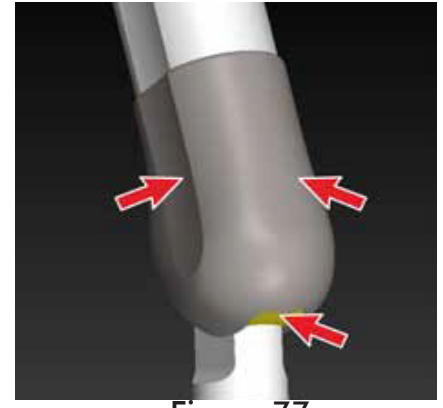

Figure 77
- Now take another half of end cap and insert such that the holes provided in both the caps are aligned properly and insert the other side of rubber part into the slot provided in the second half of the end cap as shown in Figure 77.